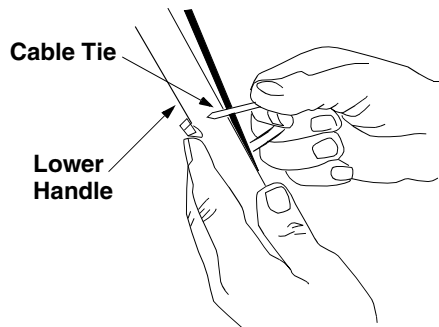

Figure 4
- Fasten the cables to the lower handle with the two cable ties found on the lower handle. Be sure to insert the post on the cables ties into the holes provided on the lower handle. These holes may be found on either the inside or outside of the handle. Pull the cable ties tight and trim off the excess. See Figure 4.